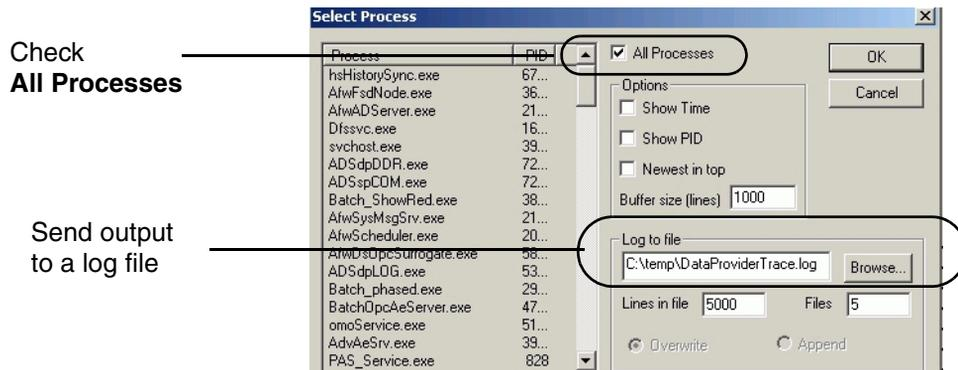

Figure 86. Select Process Dialog
2. Use this dialog to open the Trace Monitor. As an option, you can also use this dialog to send the trace output to a log file (reference Figure 86):